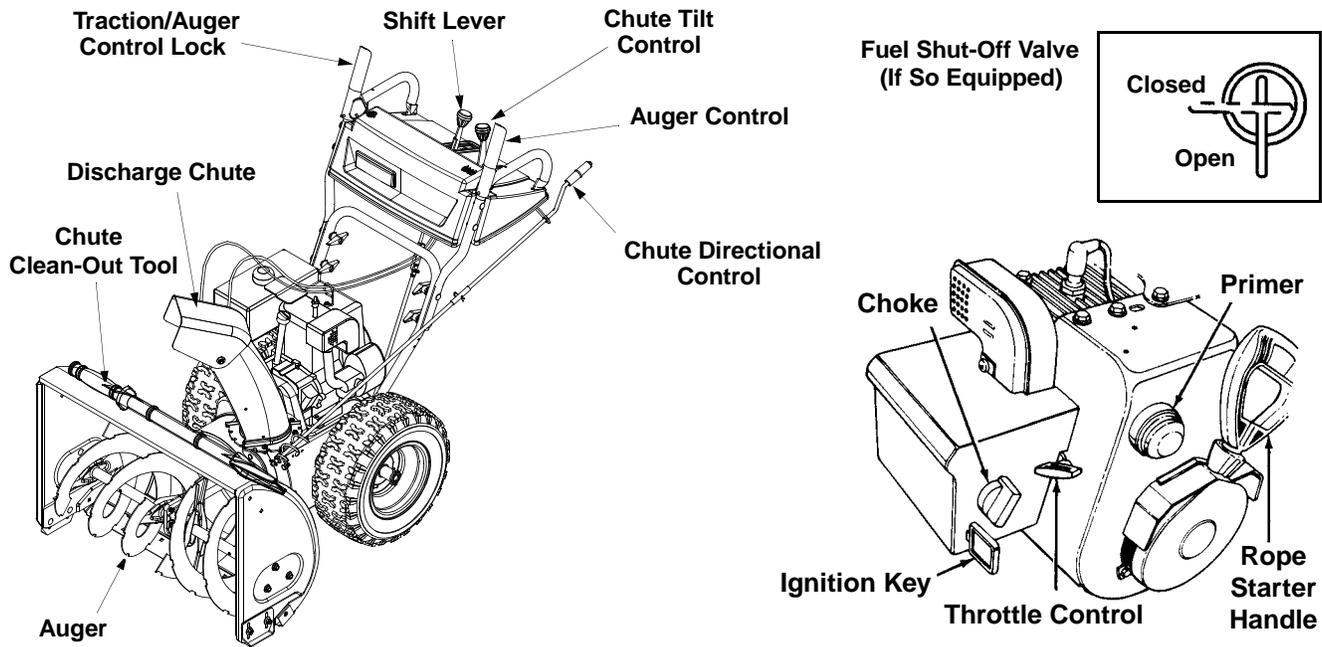

Figure 6
- Move the shift lever into sixth (6) position.
- With the traction control (refer to Figure 6) released, gently push the snow thrower forward, then pull it back. Disregarding the overall weight of the snow thrower, the machine should otherwise move freely.
The auger drive clutch is located on the left handle. Squeeze the clutch grip to engage the augers. Release to stop the snow throwing action. (Traction control must also be released.) See Figure 6.
The shift lever is located in the center of the handle panel and is used to establish both ground speed and direction of travel. It can be moved into any of eight positions. See Figure 6.
The distance snow is thrown can be varied by adjusting the pitch of the chute assembly. Move the chute tilt control forward to decrease the distance, or toward the rear to increase the distance. See Figure 6.
The fuel shut-off valve, located under fuel tank, controls fuel flow from the tank. Always make certain it is in the Open (vertical) position before attempting to start the engine. See Figure 6.
IMPORTANT: The chute clean-out tool (see Figure 6) is designed to clear a clogged discharge chute. Refer to **Operating Your Snow Thrower** on page 10 for detailed instructions on how to properly use the chute clean-out tool.